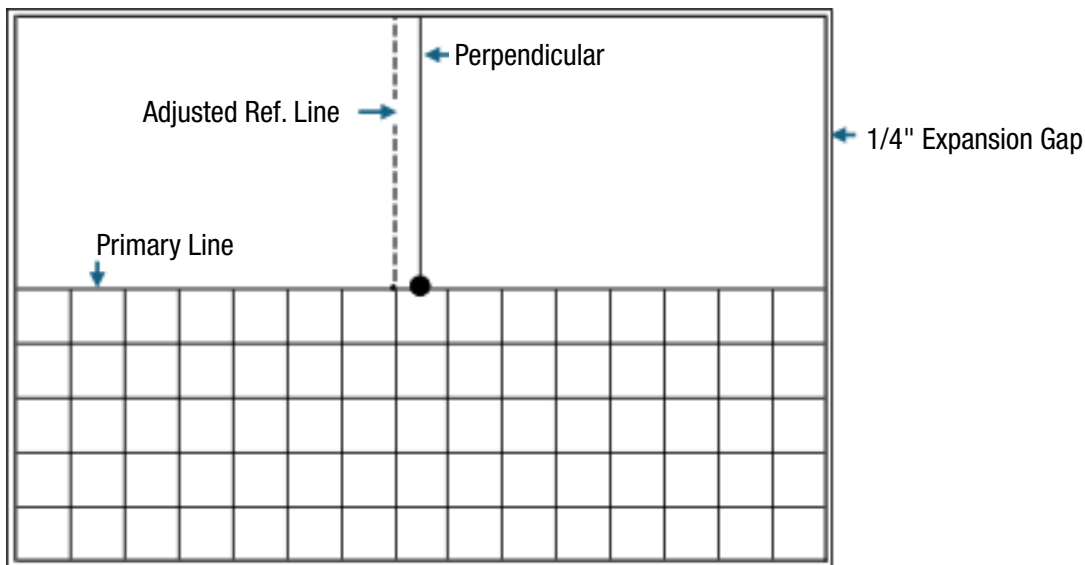

Figure 5
- For tile layout, use straight grid pattern from the starting point over adjusted reference line. See Figure 5.